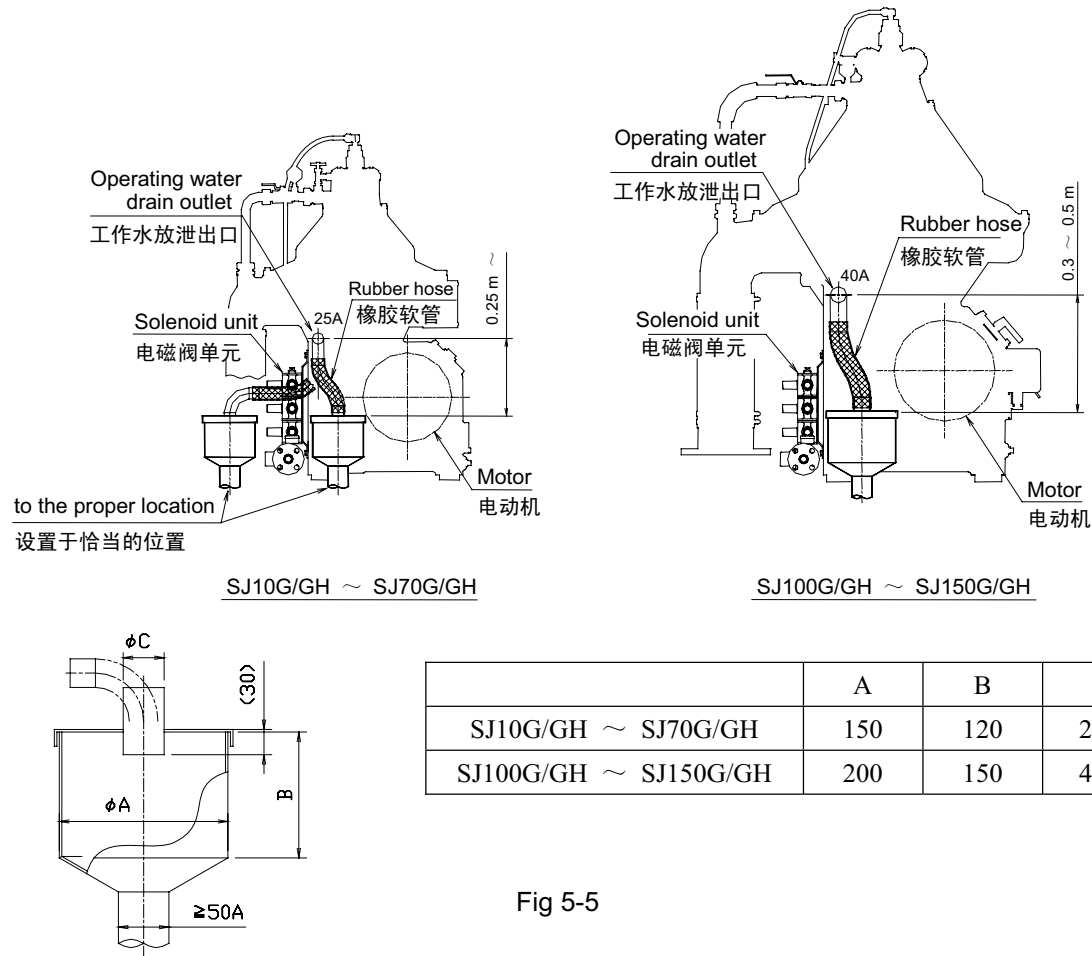

Fig 5-5
2. Regarding the dimensions of the operating water drain plumbing, please refer to Fig 5-5.(install it in a possible position for operating and maintenance of the solenoid valve unit.)
2. 有关工作水放泄配管的尺寸，请参照 Fig 5-5。（请设置在能够对电磁阀进行操作或维修的位置。）